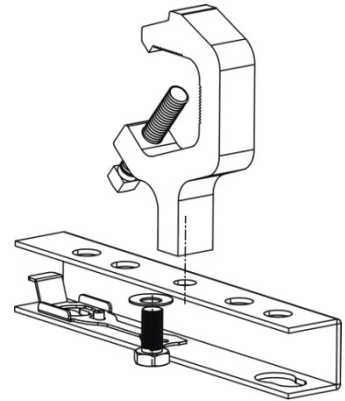

Figure2-2:Truss Hook Installation
Step 1. Install truss hooks on two provided truss hook brackets as required as shown in **Figure 2-2**.